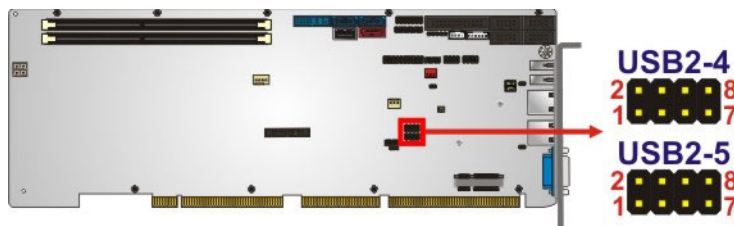

Figure 3-29: USB 2.0 Connector Pinout Locations
- CN Location:** See **Figure 3-29**